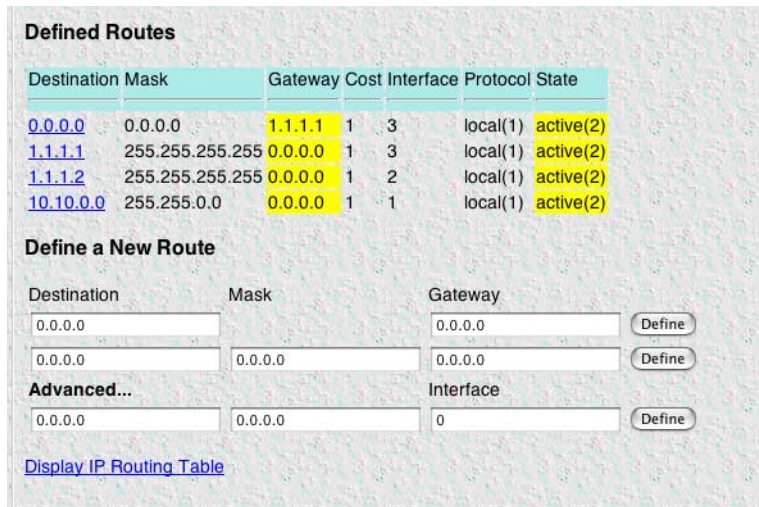

Figure 23. IP Routing Information Page
- Click the *Routing Info* hyperlink to open the **IP Routing Information** page (figure 23).